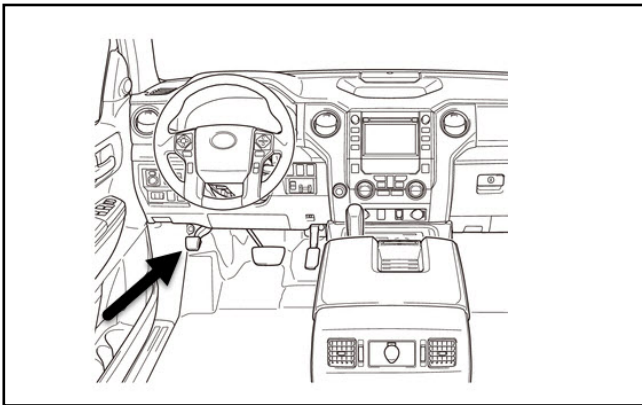

Figure 1
a. Firmly apply parking brake. Figure 1.